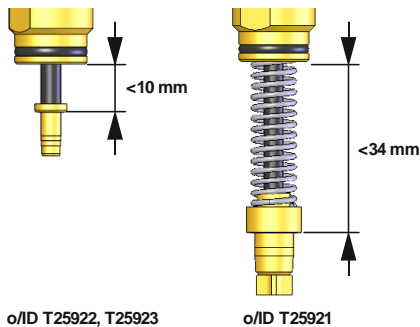

Fig. 1: Adjustment measure for cooling valves
- Valves must never be installed with completely extended pistons (→ Fig. 1).
8. Connect cooling water supply (C).